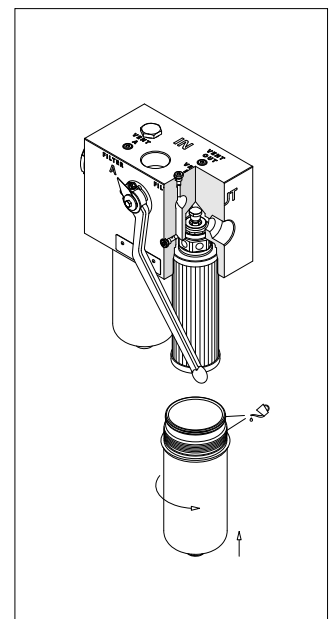

fig. 14
- (Fig. 14) Lubricate the thread and the O-ring of the bowl, then screw the bowl in referring to the tightening torque table in paragraph 3